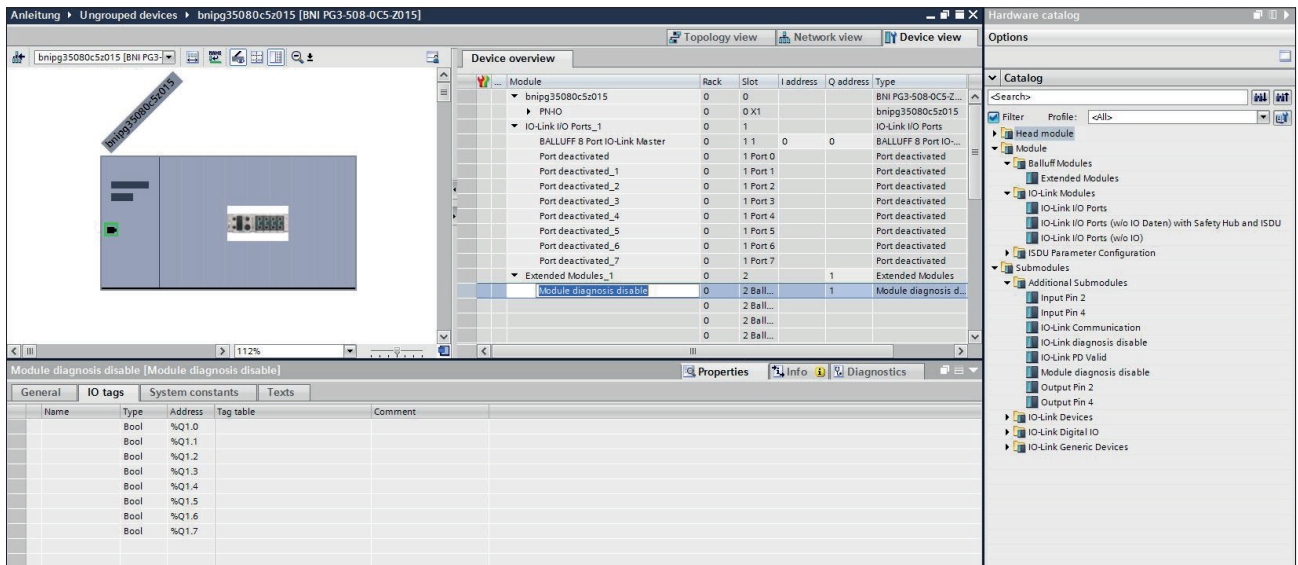

Fig. 3-4: Plugged-in *Diagnosis Disable* module
- ▶ Plug the *Diagnosis Disable* module into the extended modules (see Fig. 3-4).